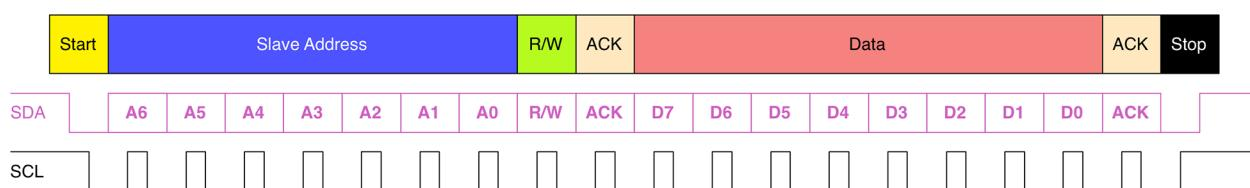

Figure 14.2: The structure of a base I2C message
All transactions begin with a START and are terminated by a STOP (see **Figure 14.2**). A HIGH to LOW transition on the SDA line while SCL is HIGH defines a START condition. A LOW to HIGH transition on the SDA line while SCL is HIGH defines a STOP condition.
Every word transmitted on the SDA line must be eight bits long, and this also includes the address frame as we will see in a while. The number of bytes that can be transmitted per transfer is unrestricted. Each byte must be followed by an *Acknowledge* (ACK) bit. Data is transferred with the *Most Significant Bit* (MSB) first (see **Figure 14.2**). If a slave cannot receive or transmit another complete byte of data until it has performed some other function, for example servicing an internal interrupt, it can hold the clock line SCL LOW to force the master into a wait state. Data transfer then continues when the slave is ready for another byte of data and releases clock line SCL.
The address frame is always first in any new communication sequence. For a 7-bit address, the address is clocked out most significant bit (MSB) first, followed by a R/W bit indicating whether this is a read (1) or write (0) operation (see **Figure 14.2**).